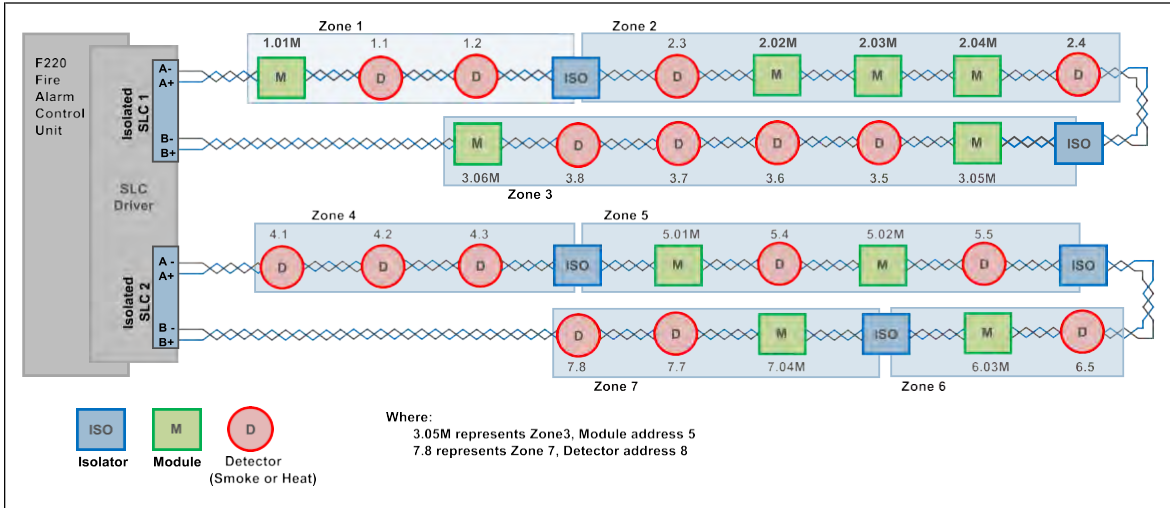
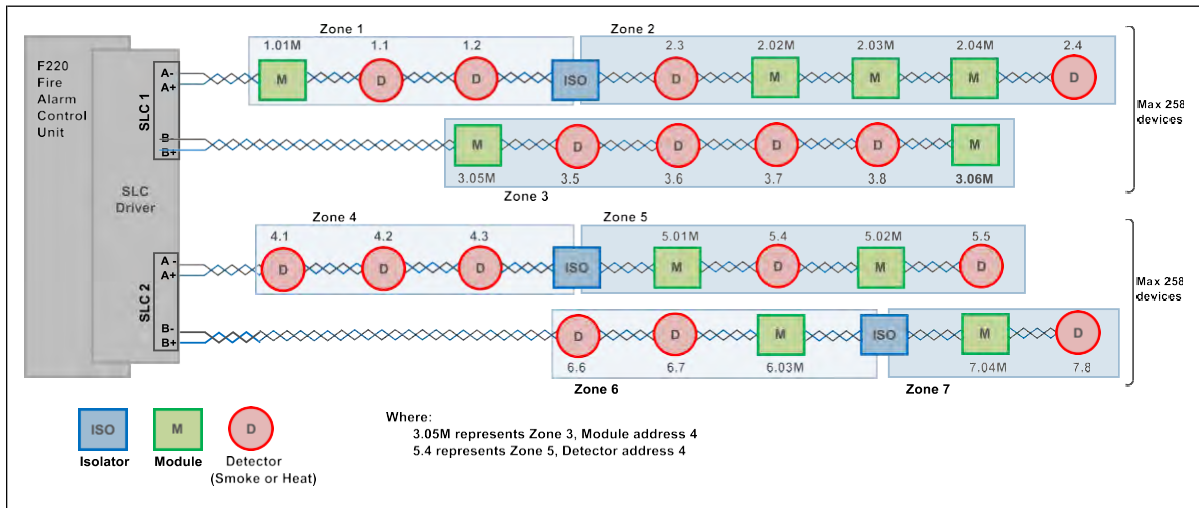

Figure 4-2: Class X SLC with isolators isolating each zone
Figure 4-3: Class B SLC, with device labelling
1. Class A: A supervised loop running from the SLC driver (A terminals) to each intelligent addressable device in turn, and back to the SLC driver (B terminals). The SLC is effectively driven from both ends (Figure 4-2). This means that a single open circuit, anywhere on the SLC, will not affect its operation and will generate a trouble.
2. Class X: A Class X supervised loop is identical to a Class A loop, except that isolators are included in the circuit to allow communication to continue to devices past a single short-circuit (Figure 4-2). Isolators can be installed to electrically isolate a zone or individual detectors and modules (Section 4.5).
3. Class B: A supervised 2 wire circuit, two circuits per SLC (Figure 4-3). A single open or ground fault will generate a Trouble.
Figure 4-2 and Figure 4-3 illustrate systems with two intelligent addressable SLCs, showing detectors (D), modules (M), and isolators (ISO), and a typical device numbering scheme.